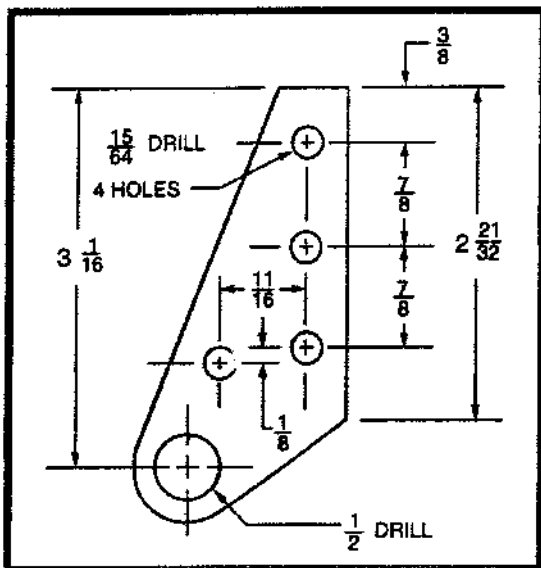

Fig. 3.12. Aircraft Drawing.
41. (Refer to figure 3.12) The vertical distance between the top of the plate and the bottom of the lowest 15/64-inch hole is